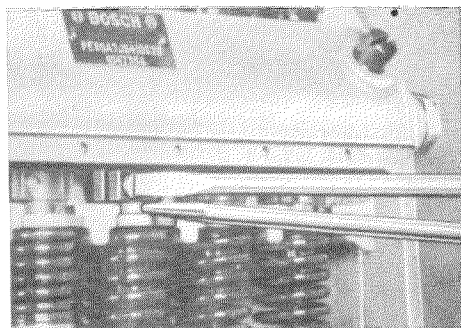

Figure 07-5/9
In order to change the discharge rate of one pump plunger on the 'A' Pump of Model OM 636 the clamping screw on the pinion segment must be loosened and the control sleeve must then be turned together with the pump plunger by means of the Tool EF 8208 A (Figure 07-5/9).
piece (20) on the control rod (see Figure 07-4/25), thereby observe that each clamping piece lies within the respective marking lines (1) (see Figure 07-5/6).